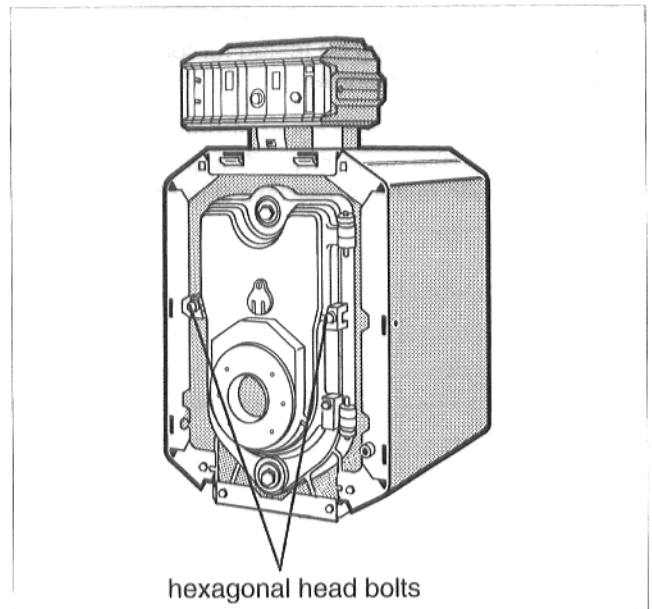

Fig. 34
- Unscrew both hexagonal head screws on the left and right of the burner door (Fig. 34) and swing the burner door open.
- Close the burner door and screw tight with the two hexagonal head bolts (Fig. 34). The bolts must be tightened evenly.